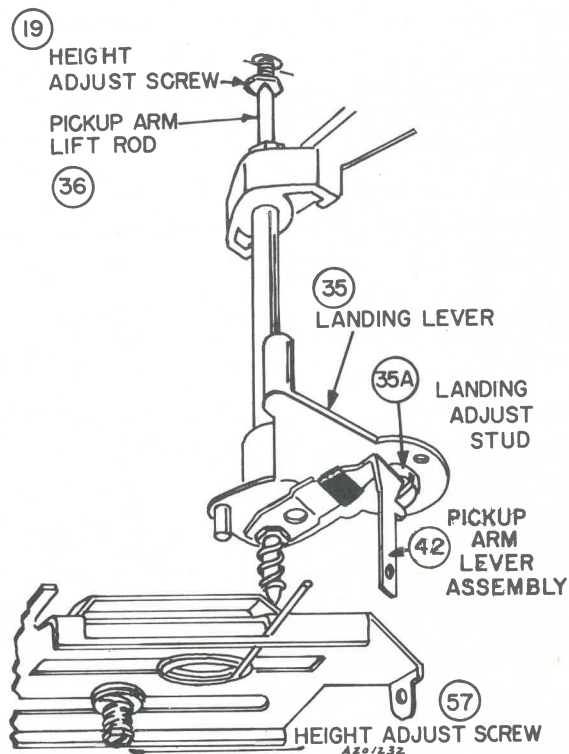

Figure 22—Adjustments
*If mechanism trips in manual, check for bent ear on clutch lever (45). Also check trip pawl lever (10A) for freedom of motion. If pickup arm fails to become free for manual handling, check for proper clearance between landing lever (35) and pickup arm lever (42). See Height Adjustment Figure 22.*